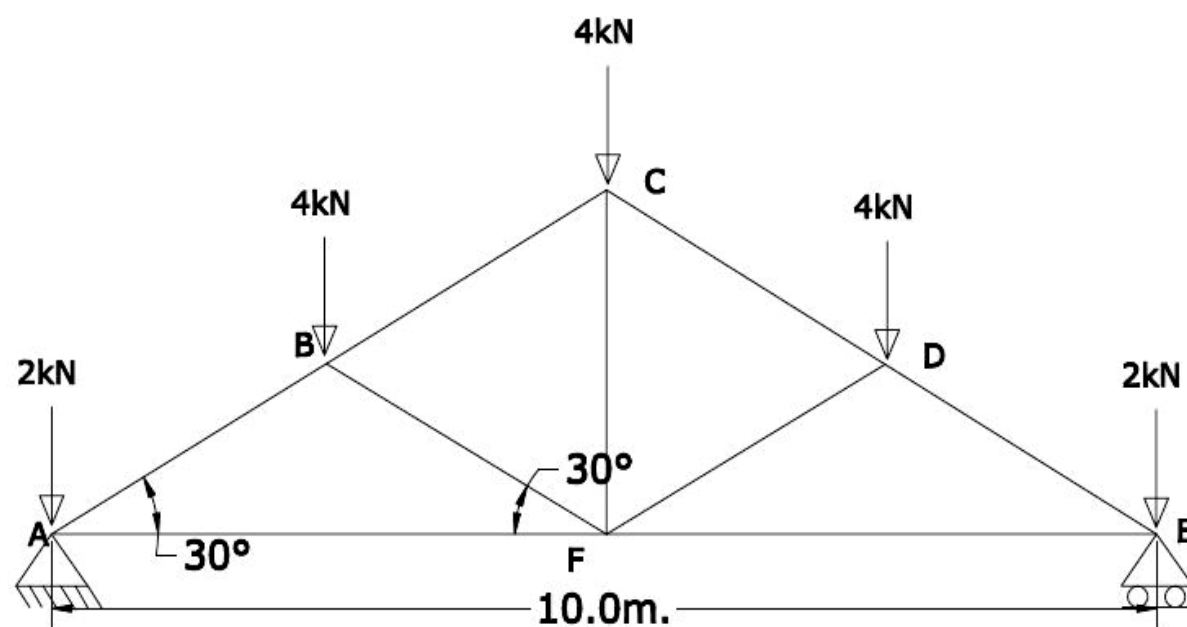

Fig. 4
7. (a) Determine the forces in the various members of the truss shown in Fig.4.